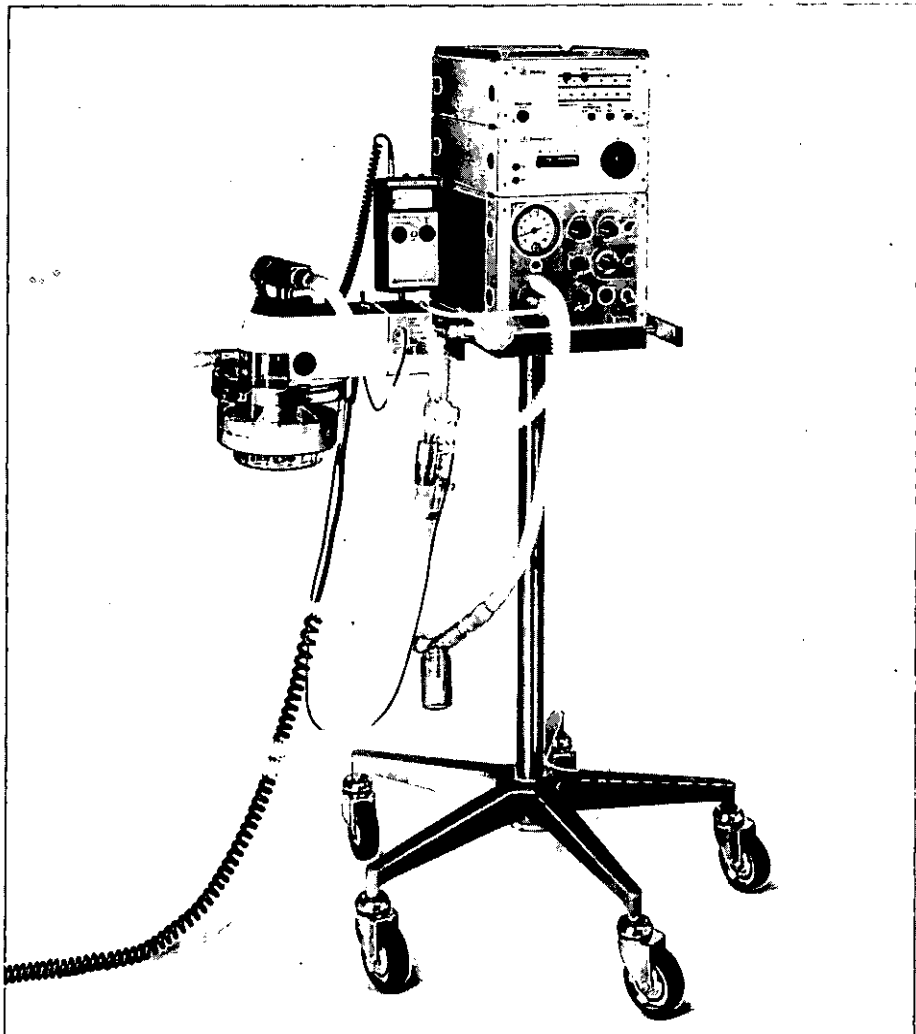

Fig. 11 Babylog 1 on carriage with O₂ blender Polymed, Barolog A, Oxycom 100 D and humidifier Aquapor with AWT 01
When using the Polymed (Fig. 11)
- For safety reasons, maintain the sequence Babylog 1, Polymed and finally (from bottom to top) an electrically operated unit (e.g., Barolog A) (cf. Fig. 11).
- that the breathing gas temperature is measured in the inspiratory hose (using the AWT 01 measuring instrument at the Aquapor, cf. Fig. 11).